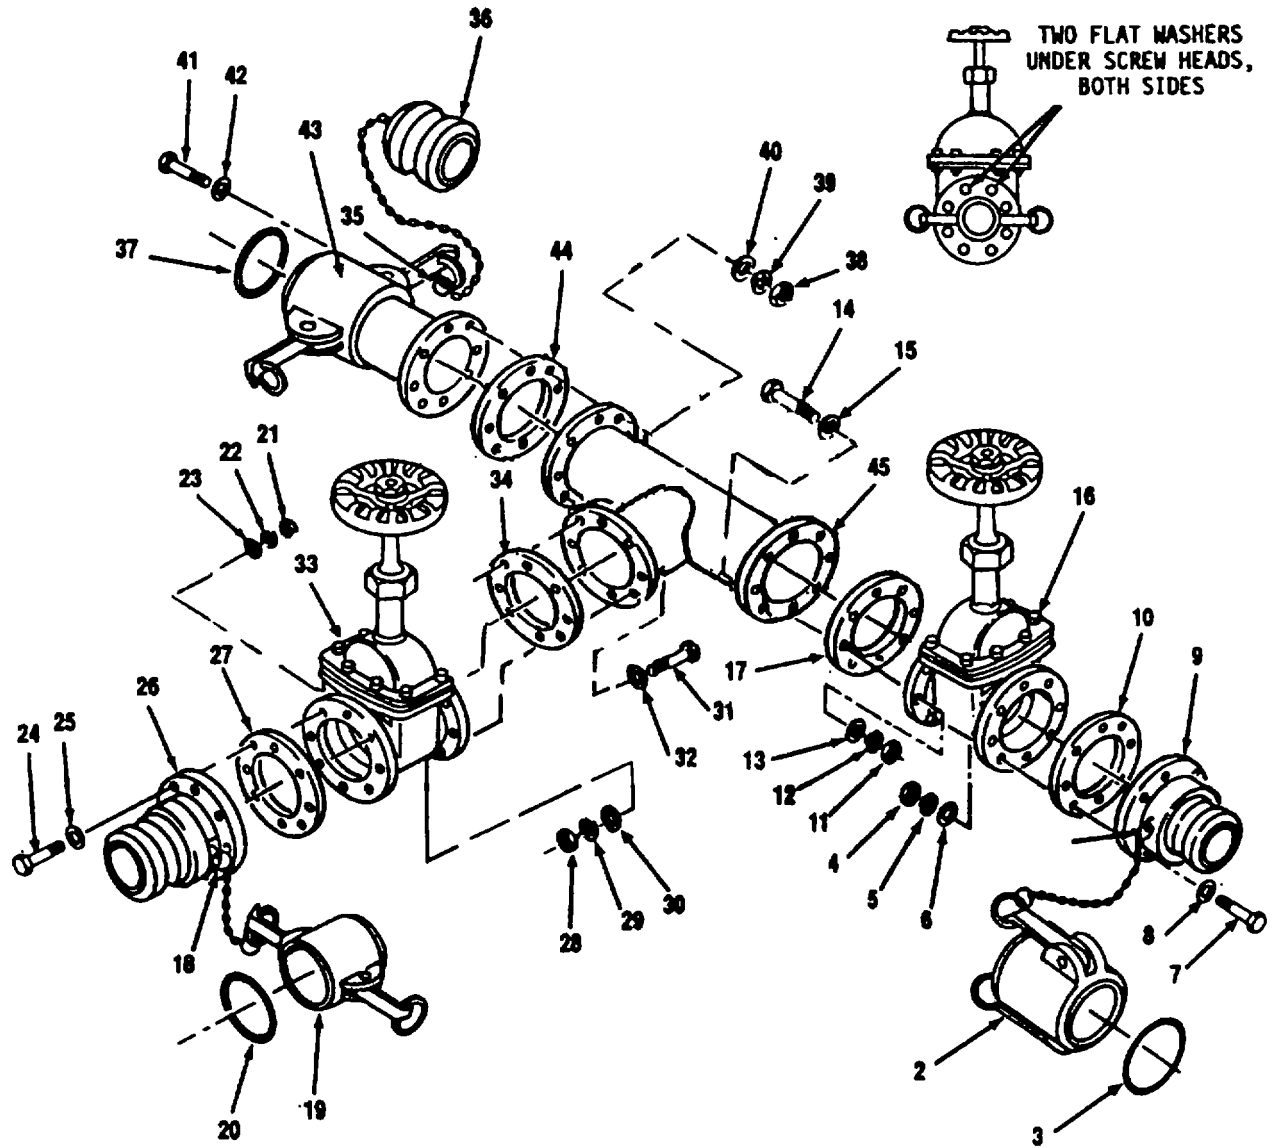

Figure 4-15. Tee and Dual Gate Valve Assembly (9148-Y2) Disassembly
a. Disassembly. Refer to Figure 4-15.
(1) Disconnect ring (1) from male coupling (9) and remove cap (2).
(2) Remove gasket (3) from cap (2).
(3) Remove eight nuts (4), lockwashers (5), flat washers (6), screws (7), and ten flat washers (8).
(4) Separate male coupling (9) and gasket (10) from gate valve (16).
(5) Remove eight nuts (11), lockwashers (12), flat washers (13), screws (14), and ten flat washers (15).
(6) Separate gate valve (16) and gasket (17) from tee (45).
(7) Disconnect ring (18) from male coupling (26) and remove cap (19).
(8) Remove gasket (20) from cap (19).
(9) Remove eight nuts (21), lockwashers (22), flat washers (23), screws (24), and ten flat washers (25).
(10) Separate male coupling (26) and gasket (27) from gate valve (33).